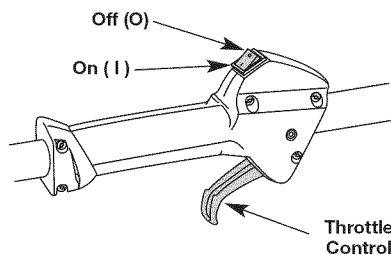

Fig. 6
NOTE: There is no need to turn the unit on. The On/Off Control is in the ON (I) position at all times (Fig. 6).
2. Press and hold the On/Off Control switch in the OFF (O) position until the unit comes to a complete stop (Fig. 6).
2. Press and hold the On/Off Control in the OFF (O) position until the engine comes to a complete stop (Fig. 6).